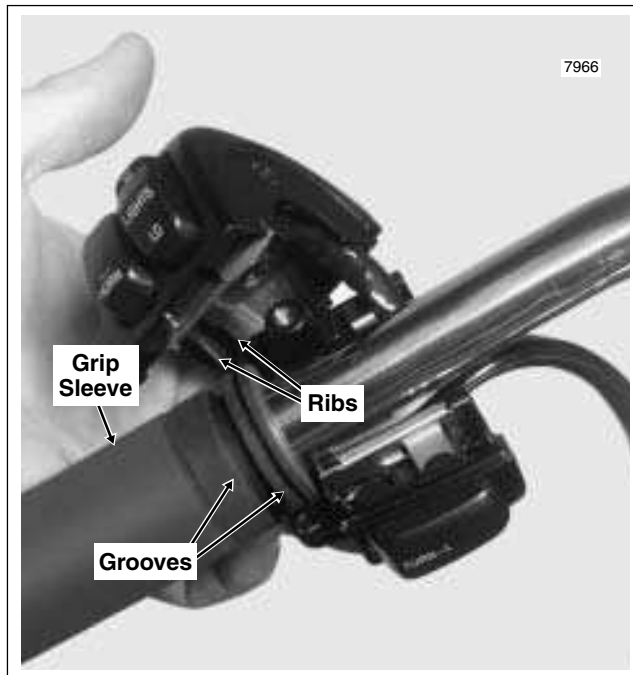

Figure 8-93. Install Left Handlebar Switch Housings
2. Install upper and lower switch housings on handlebar. Be sure that ribs on outboard side of switch housings fit in grooves molded into grip. See Figure 8-93.